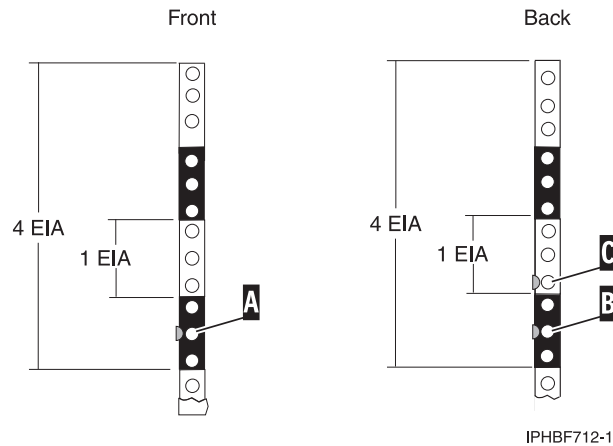

Figure 21. Marking holes on the front and back of the rack frame
3. Mark the middle hole of the bottom EIA unit on the left side of the rack (**A**) as shown in Figure 21.
5. Mark the middle hole of the bottom EIA unit (**B**) as shown in Figure 21.
6. Mark the bottom hole of the next (higher) EIA unit (**C**) as shown in Figure 21.